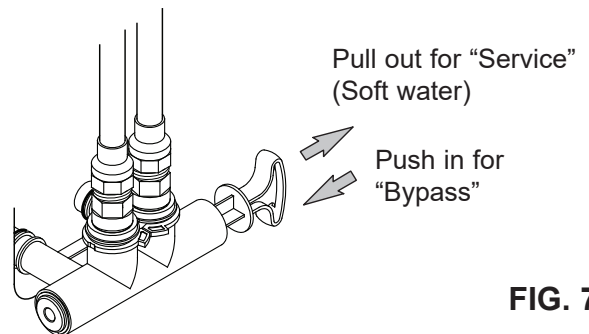
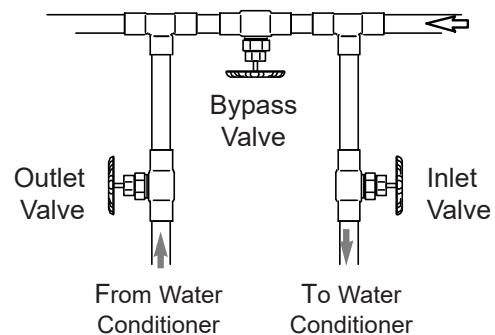

FIG. 7
FIG. 8
Always install either a single bypass valve (provided), as shown in Figure 7, or, if desired, parts for a 3 valve bypass system (not included) can be purchased and assembled, as shown in Figure 8. Bypass valves allow you to turn off the water to the softener for maintenance if needed, but still have water in house pipes.
3. Place bypass valve(s) in "bypass" position (see Figures 7 & 8). On a single valve, slide the stem inward to bypass. On a 3-valve bypass, close the inlet and outlet valves and open the bypass valve.